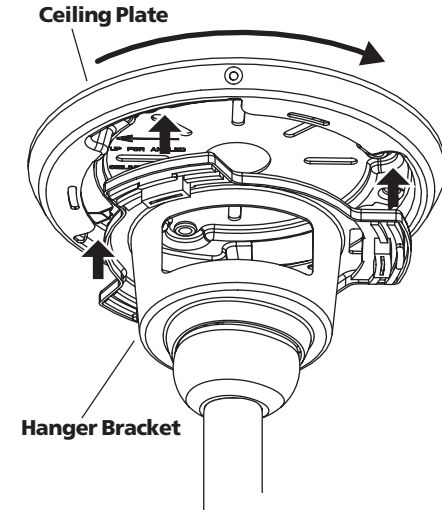

Figure 4b - Hanging the Fan
3. Holding the hanger bracket with one hand and supporting the weight of the fan with the other hand, raise the hanger bracket up flush to the ceiling plate as shown in Figure 4b. Twist hanger bracket clockwise and lock in place.